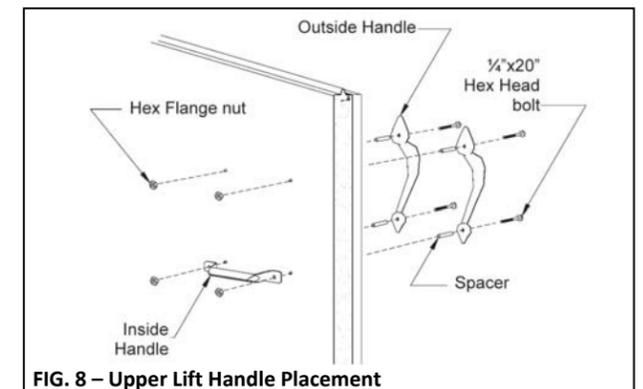

FIG. 8 – Upper Lift Handle Placement
Step 10: Attach each vertical ornamental handle (outside) and one steel horizontal roll grip handle (inside) to the door using two 1/4" black painted hex head bolts, and two 1/4" hex nuts. Use a set of hex head bolts and hex nuts to fasten the vertical handles to the door through the remaining holes. The inside handle may be matched with either set of holes so long as it is no closer than 4" to the top or bottom of the section (See Fig. 8).